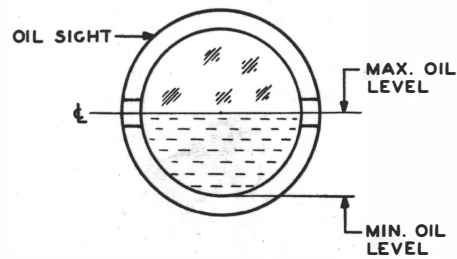

Fig. 4 - Oil Level Limits 6-, 7-, 8-, 30-, 34-, 1034-, and 1134-type Drives (Except No. 6B, 6D, 6F, 6G, and 7D Drives)
(1) 6- and 7-type [except as covered in (a2)] 8-, 30-, 34-, 1034-, and 1134-type Drives: Fig. 4 - With the drive in operation, the level of the oil shall not be higher than the center of the oil sight glass, and shall not be lower than the bottom of the oil sight glass.